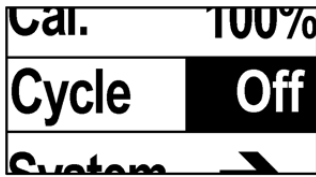

Fig. 43: Cycle display
2. Select "Cycle" menu (see Fig. 43)